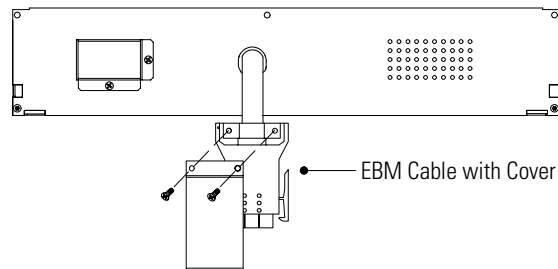

Figure 13. EBM Cable Cover (230V EBMs Only)
6. Remove the cover from the EBM cable as shown in Figure 13.